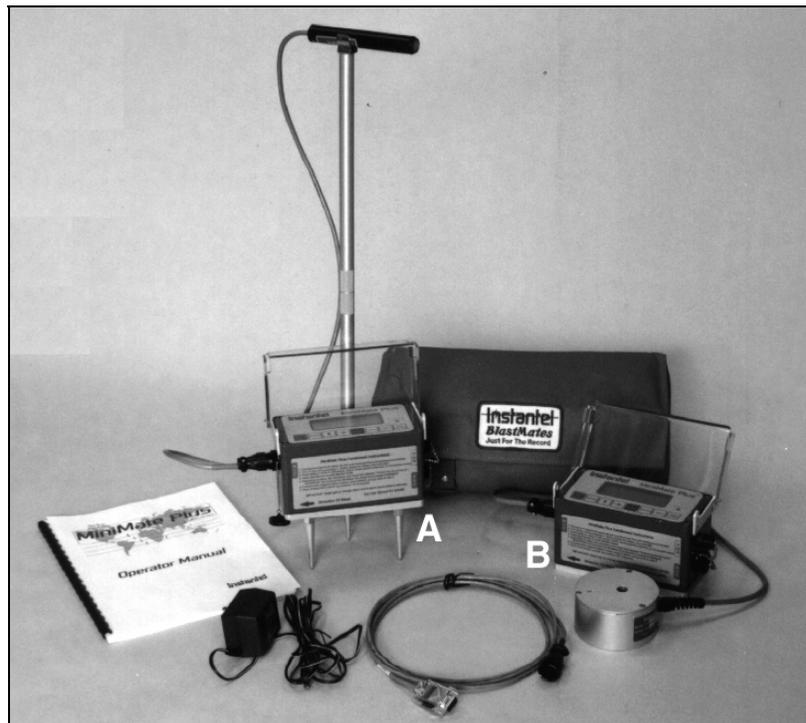

Figure 1.1 MiniMate Plus Models and Accessories.
The MiniMate Plus series of monitors includes two models based on the number of recording channels, as shown in Figure 1.1. The standard model offers four recording channels and a built-in standard transducer (A). The second model offers eight recording channels with your choice of external transducers and microphones (B). All models offer the level of performance and ease-of-use you expect from InstanTel monitors.